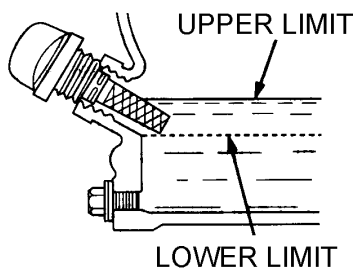

Figure 5. Engine Oil Dipstick (Oil Level)
4. If the oil level is low (See Figure 5), fill to the edge of the oil filler hole with the recommended oil type (Table 4). Maximum oil capacity is 1.16 quarts (1.1 liters).